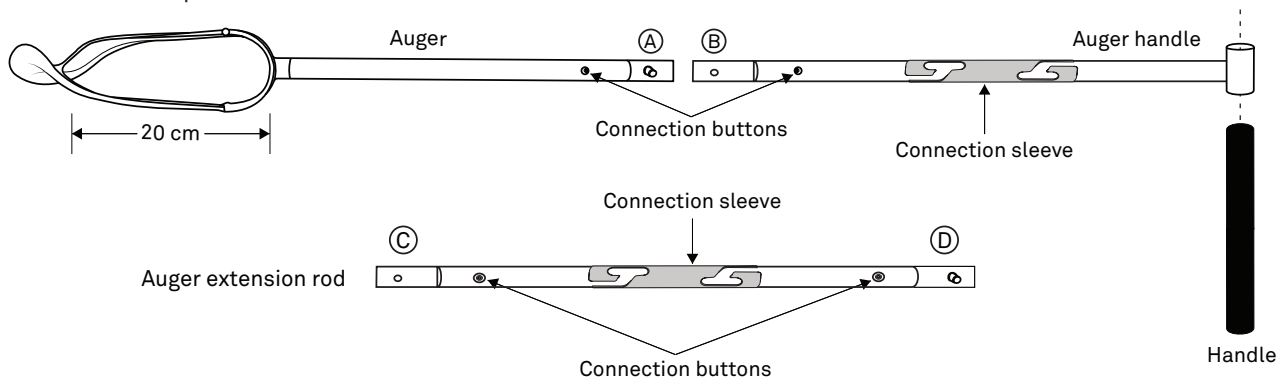

Figure 3 Assemble auger and extension rod
- a. Attach the end of the auger extension rod (C) to the end of the auger rod (A) (Figure 3).
- b. Align the connector sleeve slot on the auger handle rod (B) with the connection buttons.
2. **[REQUIRED]** Assemble the auger handle rod and the auger rod (Figure 3).
- a. Attach the end of the auger handle rod (B) to the end of the auger rod (A) or to the extension rod (D). If optional extension rod is used see step 1 above for installation.